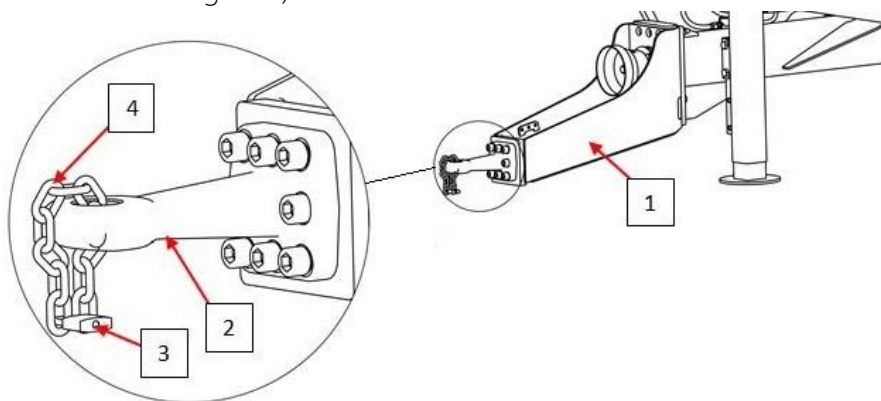

Figure 3. Securing the machine against unauthorized use (EU homologation).
- Remove the chain protecting against unauthorized use from the eye of the drawbar (fig. 3) (applies to EU homologation).